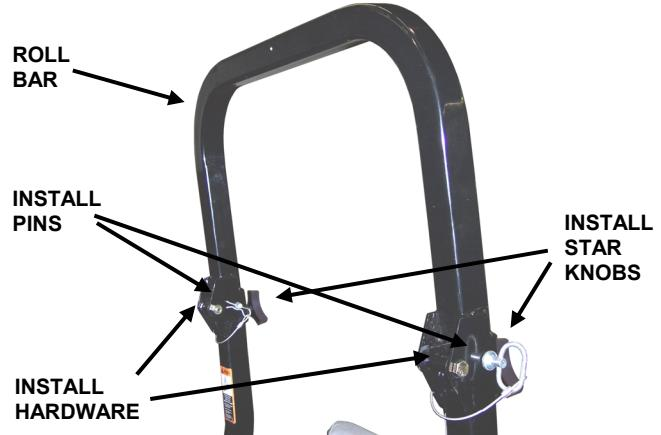

FIGURE 2
- Attach roll bar to side bars, securing with two 1/2-13 x 3-1/4" hex bolts and lock nuts through the hinges. See Figure 2. NOTE: Make sure roll bar tilts backward when folded.
- Raise roll bar to fully upright position, aligning locking holes in roll bar with corresponding holes in side bars. Insert locking pin through each hole, and secure with connected bridge pin. Install star knobs into threaded holes in front of roll bar, and tighten securely. See Figure 2.